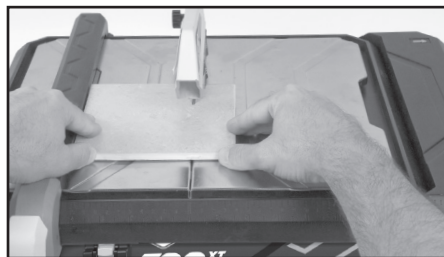

FIGURE 14
3. Carefully and slowly feed the material into the blade (see FIGURE 14).